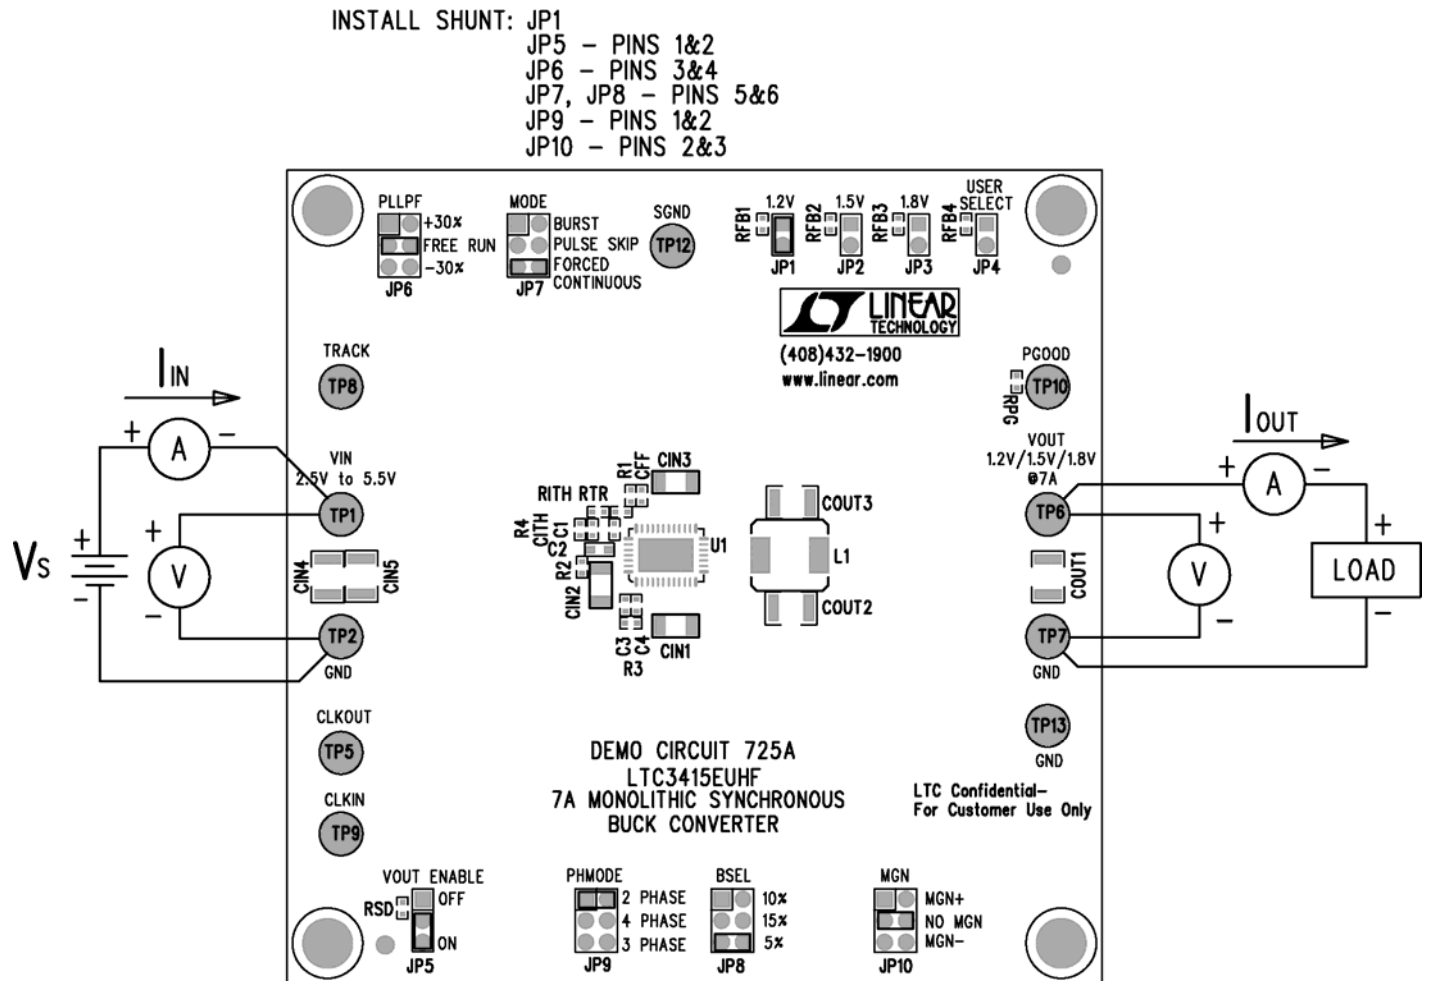

Figure 1. Proper Measurement Equipment Setup
Demonstration Circuit 725 is easy to set up to evaluate the performance of the LTC3415. For proper measurement equipment configuration, set up the circuit according to the diagram in **Figure 1**. Before proceeding to test, make sure the jumper shunts are in the appropriate header according to the legend in **Figure 1**, except for one exception: insert jumper JP5 shunt into the off (upper) position, which connects the RUN pin to ground (GND), and thus, shuts down the circuit.
1. With the DC725 set up according to the proper measurement and equipment in **Figure 1**, apply 3.3V at V_{in} (Do not hot-plug V_{in} or increase V_{in} over the rated maximum supply voltage of 5.5V, or the part may be damaged.). Measure V_{out} ; it should read 0V. If desired, one can measure the shutdown supply current at this point. The supply current will be approximately 10 μA , or less, in shutdown.